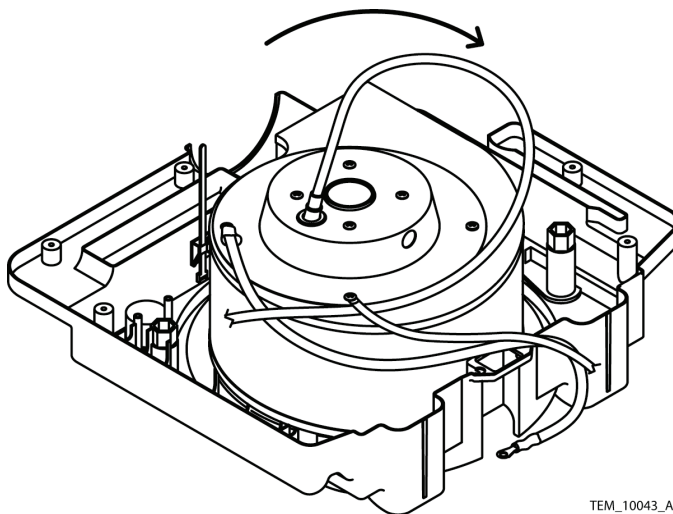
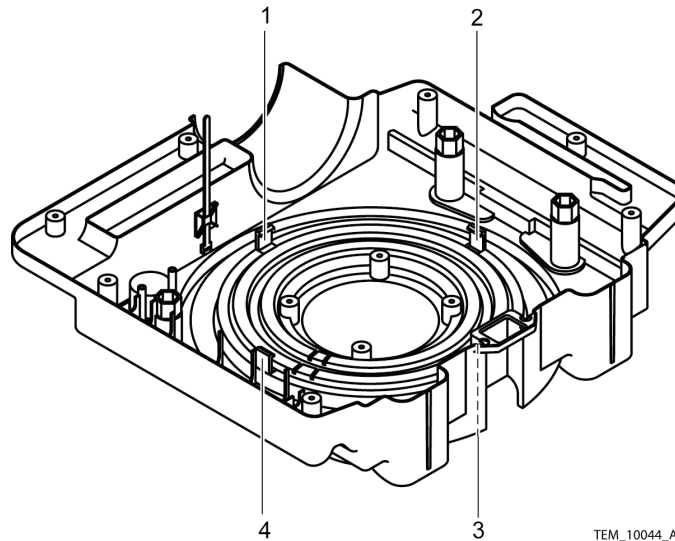

Figure 68. Blower Motor Removal
Figure 69. Blower Assembly Clips
25. Rotate the blower motor assembly clockwise to disengage two of the four clips. See Figure 68 and Figure 69.